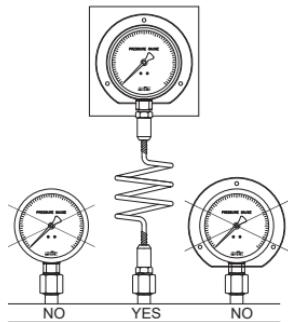

Figure. 6
- 2) Check there are vibration or pulsation or pulsation of fluid and install suitable accessories. (Figure. 6)